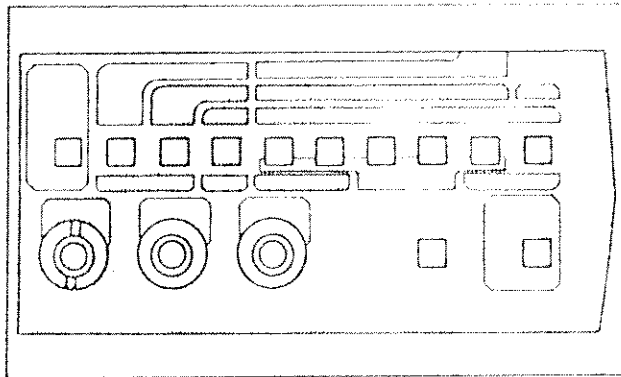

Figure 1-3. Linear Voltage Measurements
-21. The switch used to select either ac or dc measurements is located at the left end of the upper row of pushbuttons. The AC/DC switch works for both the current and the voltage measurement functions. This switch is a push-push type switch. Do not try to pull the AC/DC switch to the OUT (DC) position.
25. The controls and terminals used for making linear voltage measurements are highlighted in Figure 1-3. Starting at the top left is the AC/DC switch. Next is the V pushbutton. This pushbutton is interlocked with the other two white function selection switches — mA and Ω /S. That is, if the V function switch is at the IN position (V selected), and any other function select switch pushed, the V pushbutton will be released to the OUT position. Push the V switch to the IN position. Push the V switch to the IN position.